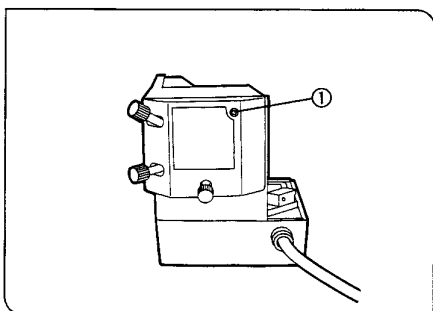

Fig. 1
1. Using the Allen screwdriver provided with the microscope frame, loosen the burner socket clamping screw ①. (Fig. 1)